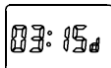

Figure 8
6.2.1.3 Press “MD” to enter current date adjust status, press “◀” to select the adjusted position, press “△” and “▽” to plus and minus, adjust the display date of the product to current date, such as current March 15 shall be set to “03: 15d”, see Figure 8. After setting, press “MD” to exit.